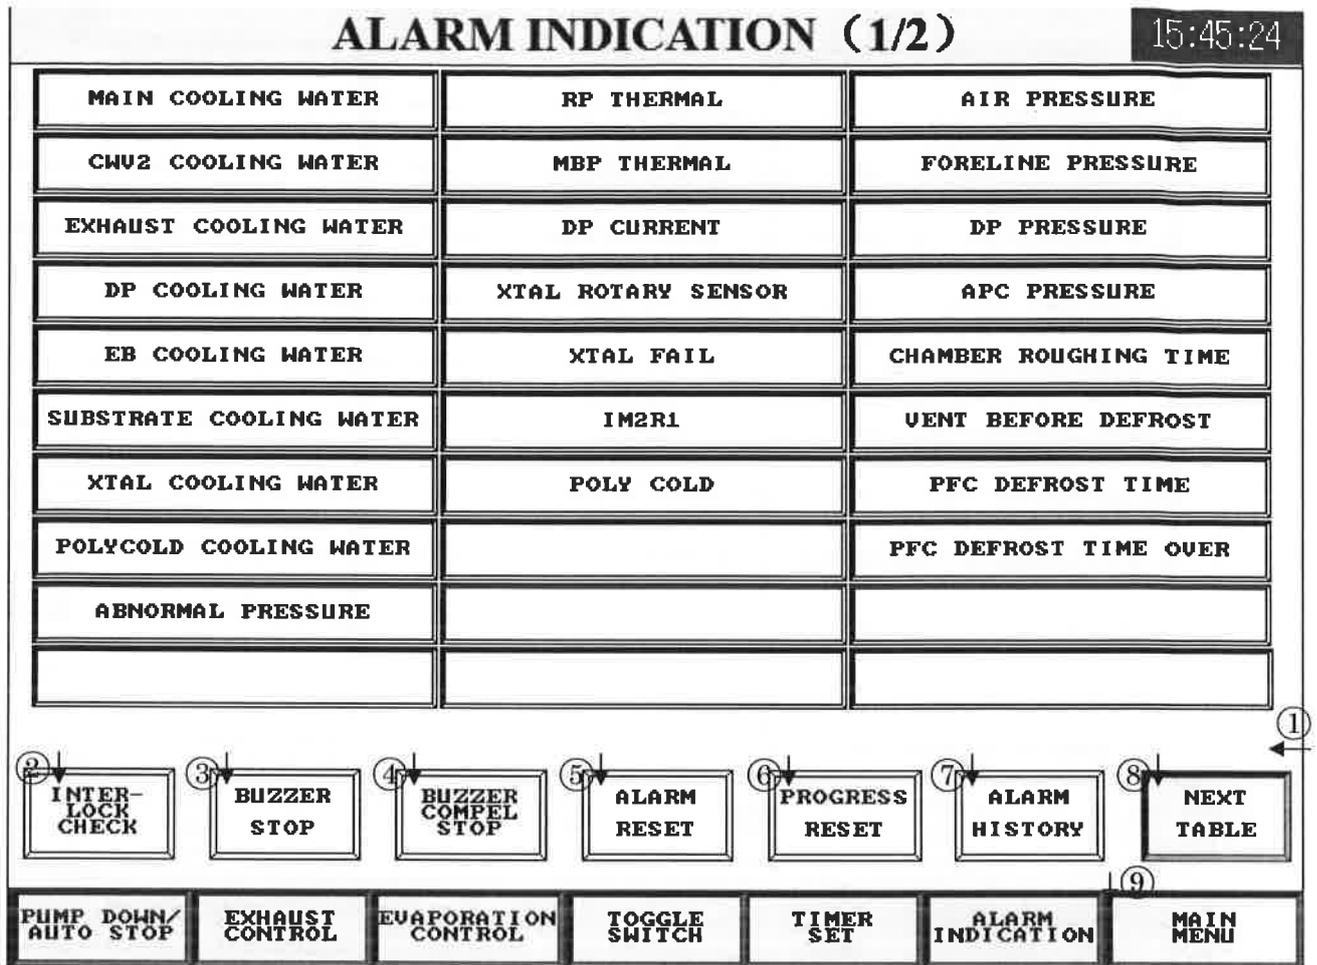

Figure12. ALARM INDICATION
(The chamber cooling water valve open when the process time of CHAMBER WATER (Figure 12-③-1 is over.)